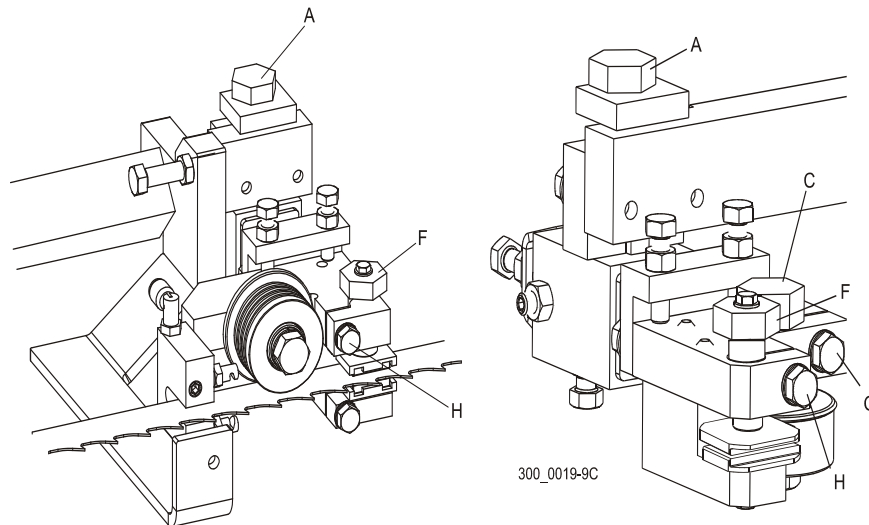

FIG. 3-24
See **Figure 3-24. Optional Roller/Block Guides:** Turn blade guide roller bolt (C) to move the roller so it is 1,5mm-3mm (1/16"-1/8") from the back edge of the blade and tighten clamp bolt (G). Turn blade guide assembly bolt (A) clockwise to raise the bottom guide block up until it touches the blade, but does not deflect it upward. Turn top guide block bolt (F) clockwise to move top block down until it touches the blade, then back 1/4 turn. Tighten clamp bolt (H). Repeat for other blade guide assembly.